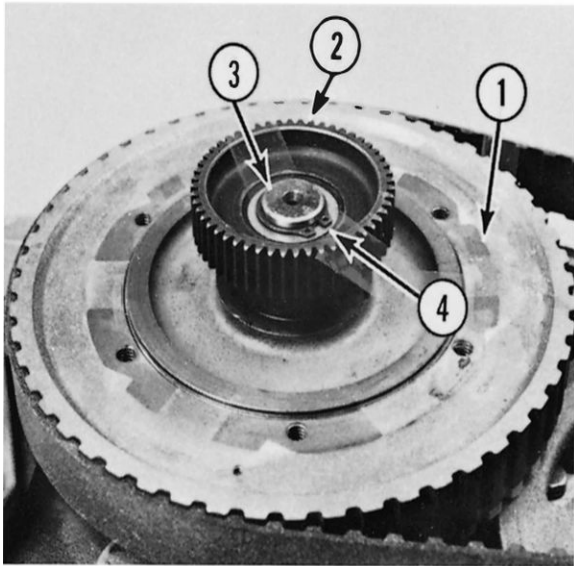

**Fig. 9-17**
(6) Install the three clutch arm assemblies (1, Fig. 9-17).
(7) Install the pin (2, Fig. 9-17) and cotter pin (3, Fig. 9-17).